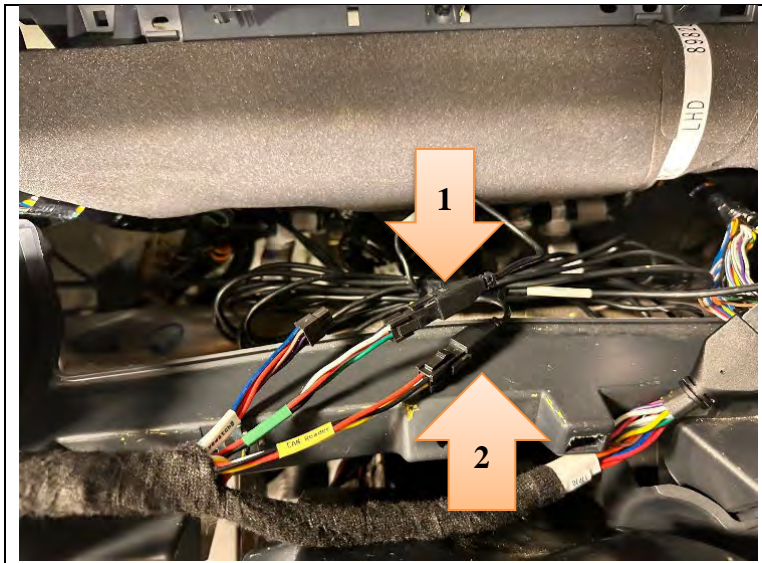

Figure 69
77. **Mobileye 8 ONLY:** Disconnect the CAN reader connector from the old harness and plug it in to the new harness. Disconnect the old EyeWatch harness and plug it in to the new harness. (See Figure 69.)